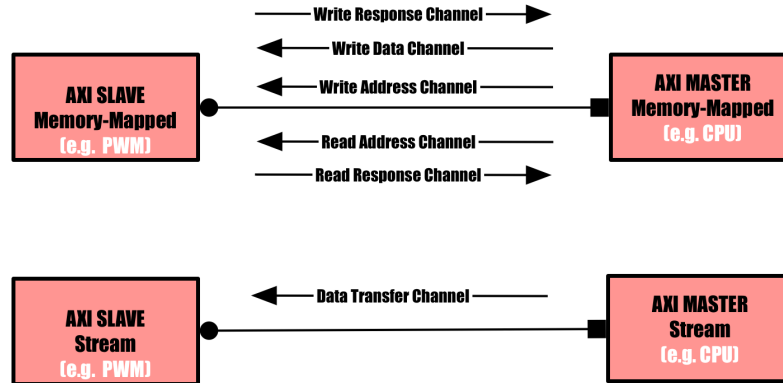

Figure 2: AXI Memory Mapped and AXI Stream architecture
As we have talked about customization per application, you can use two types of advanced eXtensible interfaces (AXIs): AXI Stream and AXI Memory Mapped (MM). Basically, a simple application such as computation of some stream of data can make use of AXI Stream, while a more complex one (e.g. writing on a memory) might need access to addresses (so AXI MM comes in place). Their diagrams can be seen in Figure 2. **In our case, we will use an AXI Memory Mapped architecture, and PWM (Pulse Width Modulation) slave module to control LEDs and a buzzer.**
where the logic is implemented. If you open *PWM_v1_0_S00_AXI.vhd*, you will see the registers specific to the AXI-Memory Map architecture (Figure 2). In addition, the user can add its own logic and signals. Thus, you can see the implementation of PWM outlined by the following comments: